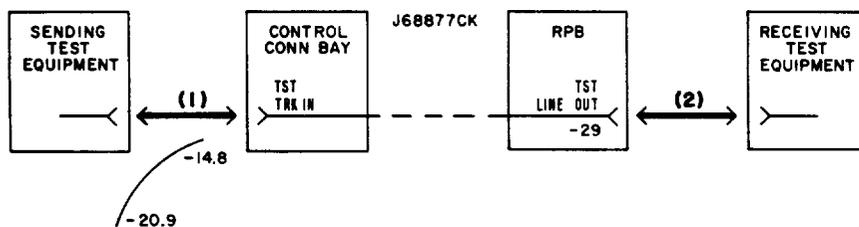

Fig. 9—Receiving Test Line Out Trunk for L4
4	Make patches designated (1) and (2) in Fig. 9.